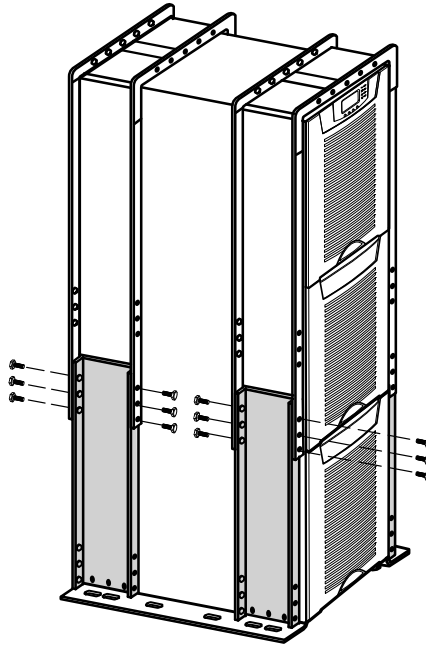

Figure 4. Installing Extension Brackets (3-High Only)
- 12. For 3-high cabinets only.** Using six M6 bolts for each extension bracket, install four extensions to the hold-down brackets (see Figure 4). Tighten the bolts.